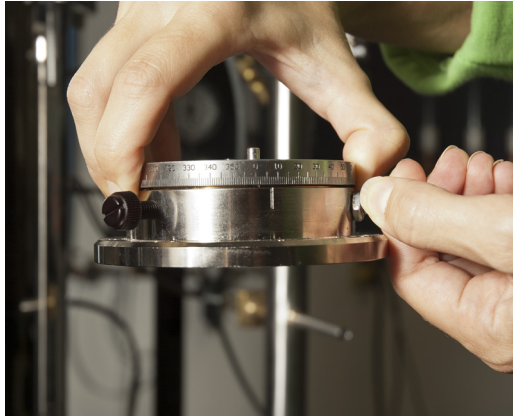

FIGURE 3-39 Left: Pulling out on the locking pin; Right: Setting the index dial to 0°
5. Rotate the index dial so that 0° is at the indexing mark (FIGURE 3-39).